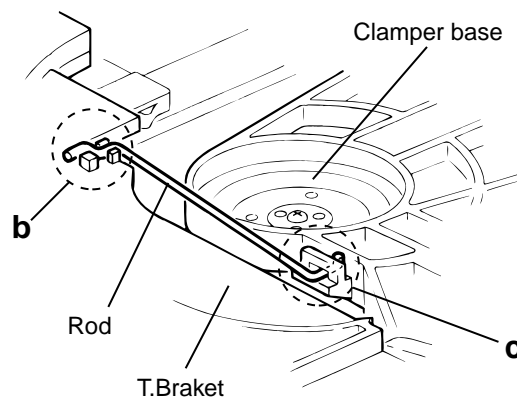

Fig.2
■ Removing the CD tray assembly (See Fig.2~4)
1. Remove the front panel assembly. (See Fig.2~4)
5. From the T.bracket section "b" and clamber base section "c", remove both of the edges fixing the rod(See Fig.2 and 3).